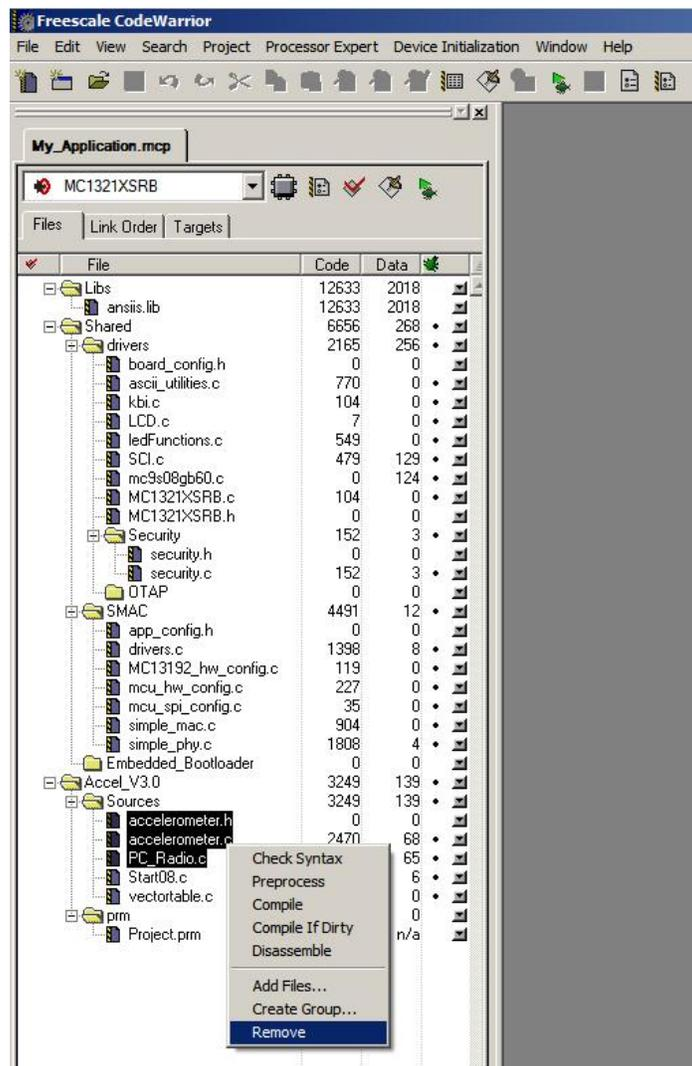

Figure 11. Removing Accelerometer Demonstration Files
1. In CodeWarrior select the source and header files from the Sources group, except the `Start08.c` and `vectortable.c` files. Right click on a selected file and choose Remove as shown in Figure 11. This removes the Accelerometer project applications files and keeps the entire SMAC Codebase 1.0.4 configuration.